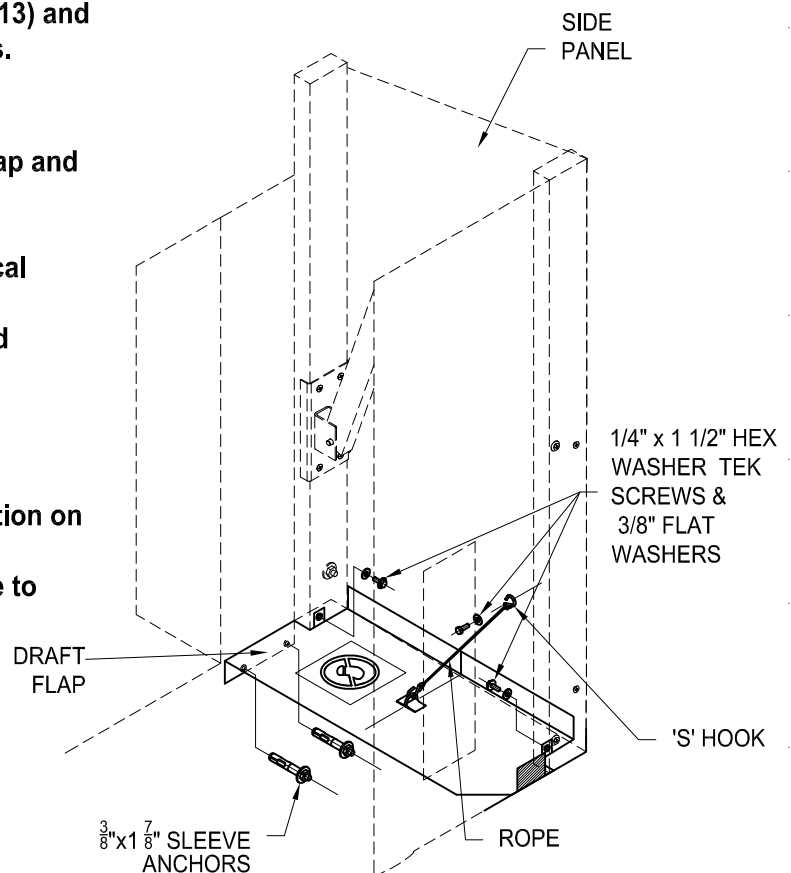

FIG. 13
- * Place draft flap into place (as shown in fig. 13) and use grommeted holes to mark hole locations.